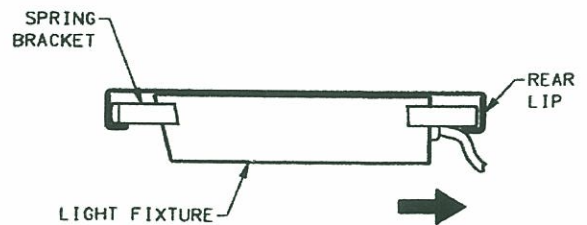

Figure 10
4. Move light fixture back so that back of spring bracket is resting on rear shelf lip. See Figure 10.